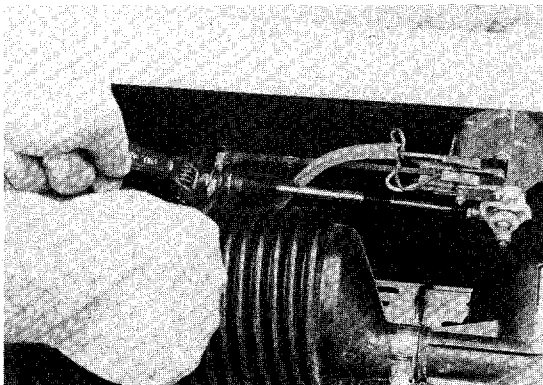

Figure 14-24
6. Remove shifter cable from slotted mounting bracket (Figure 14-24).